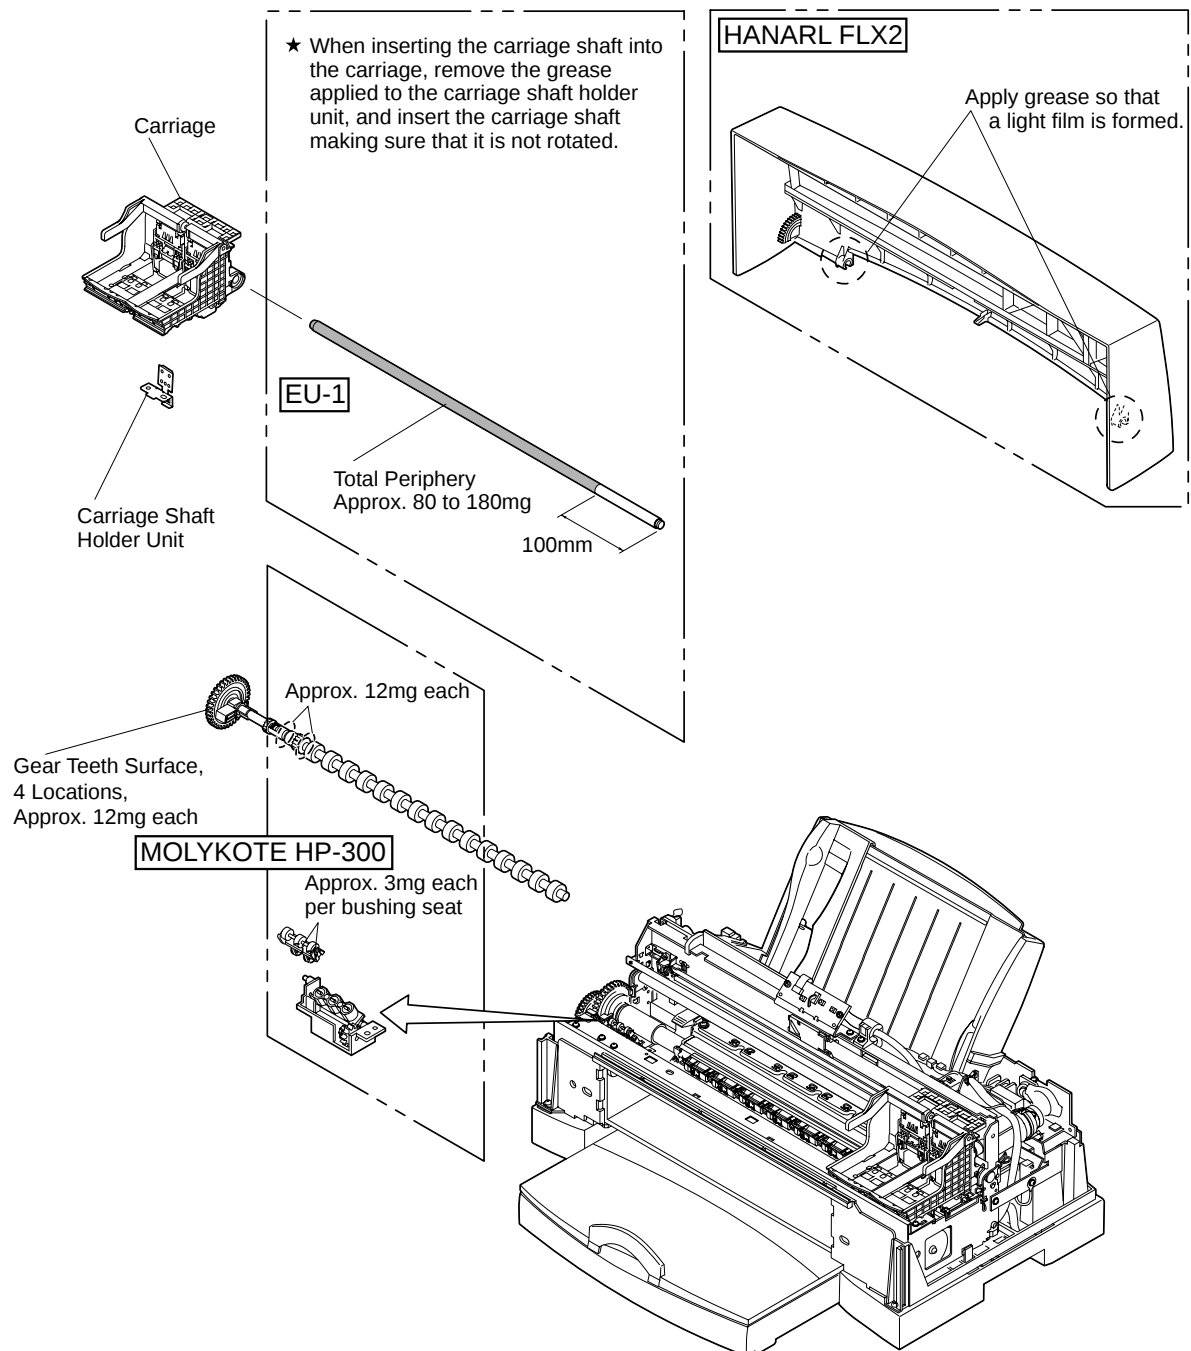

Figure 5-1 Grease Application Sections (1)
Grease (MOLYKOTE HP-300) (QY9-0035-000)	For application to specified locations (see Figure 5-1 Grease Application Sections (1) (page 5-3) .)
Grease (HANARL FLX-2) (QY9-0036-000)	For application to specified locations (see Figure 5-1 Grease Application Sections (1) (page 5-3) .)
Grease (EU-1) (QY9-0037-000)	For application to specified locations (see Figure 5-1 Grease Application Sections (1) (page 5-3) .)